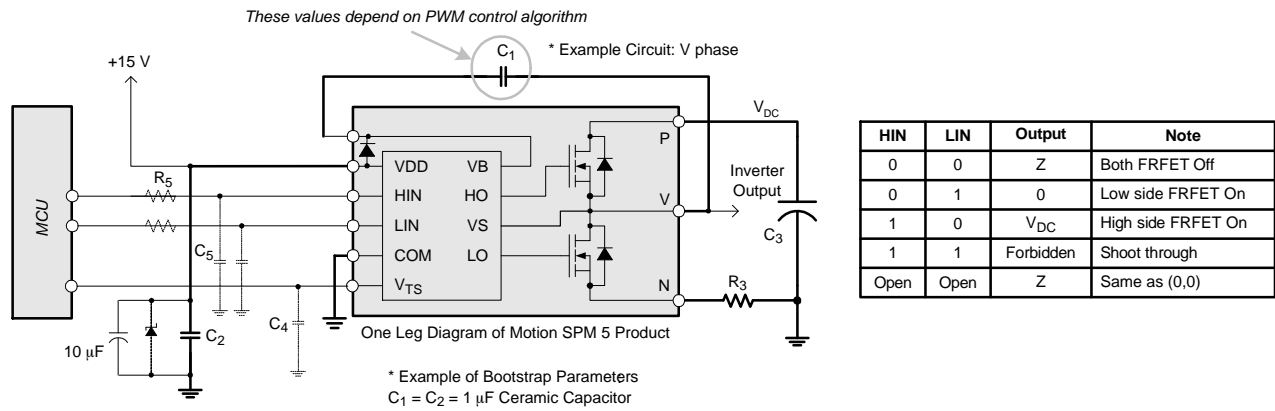

Figure 4. Recommended MCU Interface and Bootstrap Circuit with Parameters
- For the measurement point of case temperature T_C , please refer to Figure 4.